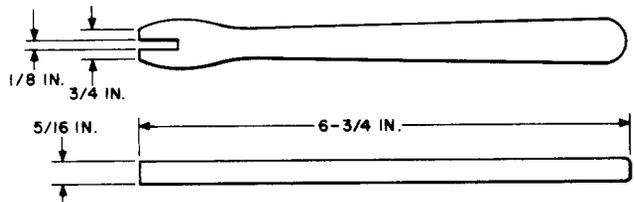

Fig. 7—AECO H-13701 Adjuster Tool
2.07 AECO H-13701: The AECO H-13701 tool (Fig. 7) is an adjuster used on solenoid-type master switches and plunger-type line and out-trunk switches.